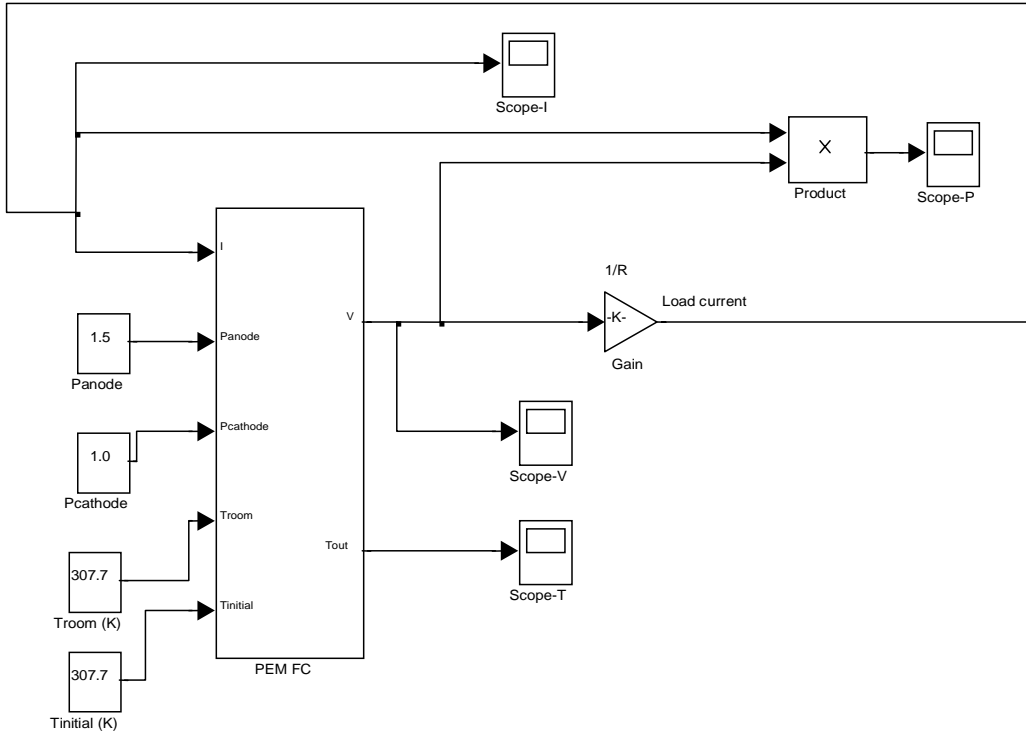

Figure A.1 Example for using the PEMFC model in MATLAB/Simulink.
2. Any load current data can be used for simulation studies. However, the load current is limited to 25A in the model. Figure A.1 shows the SIMULINK diagram for an example, where a resistor R is connected to the PEMFC model and the load current is fed back to the model as input.